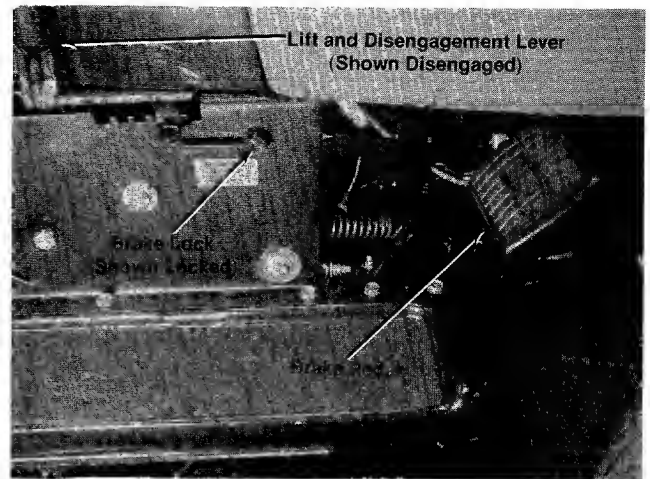

FIGURE 8. RIGHT HAND CONTROLS.
c. Brake. The brake pedal is located on the right hand side of the mower and is operated by depressing it with your right foot. See figure 8.
d. Brake Lock. The brake lock is located on the right hand side of the mower. To lock the brake, depress the brake pedal and lift up the lock button. The pedal will stay depressed. To release, depress the pedal. See figure 8.